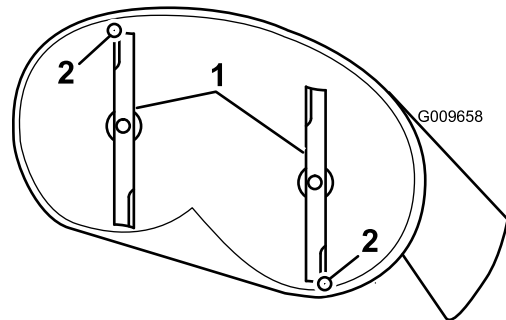

Figure 54
4. Carefully rotate the blades so they are facing front to rear (Figure 54).
5. Measure from the tip of the front blade to the flat surface and the tip of the rear blade to the flat surface (Figure 54).
9. After adjustment, check the front-to-rear slope again. Continue adjusting the nut until the front blade tip is 1.6-7.9 mm (1/16-5/16 inch) lower than the rear blade tip (Figure 54).